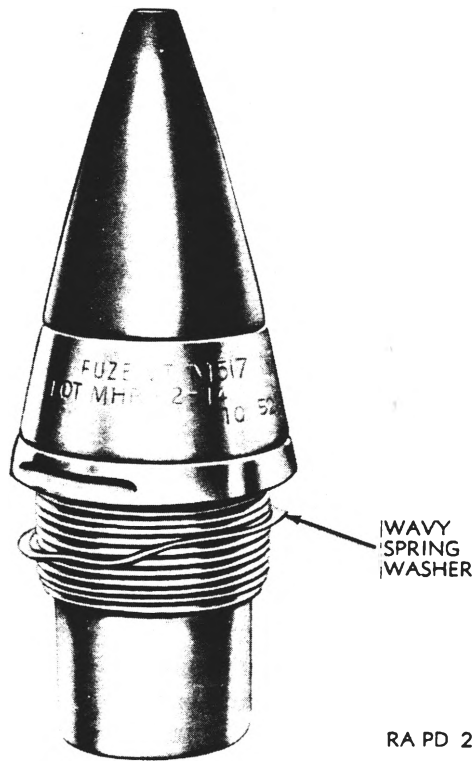

Figure 48. Fuze, proximity: M517 (T178E3).
*a. General.* This proximity fuze (fig. 48) is used with the 81-mm high-explosive cartridge M362 against terrestrial or waterborne targets. The fuze is essentially a self-powered radio pulse transmitting and receiving unit. In flight, the armed fuze transmits radio waves. When the radio pulse front is reflected back from the target, it interacts with the transmitted wave. When the ripple or beat caused by this interaction reaches a predetermined intensity, it trips an electronic switch which closes an electric circuit. This initiates detonation of the fuze explosive train when at or near optimum distance from the target. If the radio elements of the fuze should become inoperative, the impact element will cause functioning of the fuze explosive train if impact with a resistant object occurs.